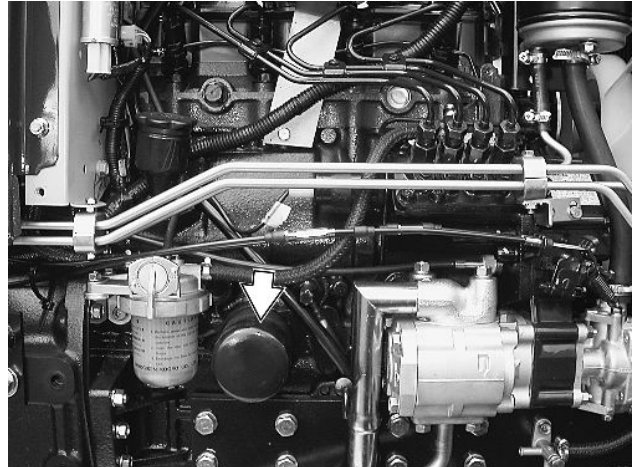

Figure 49 - Engine Oil Filter
2. Unscrew the oil filter, Figure 49, catching the used oil in a suitable container placed below the filter. Discard the filter.